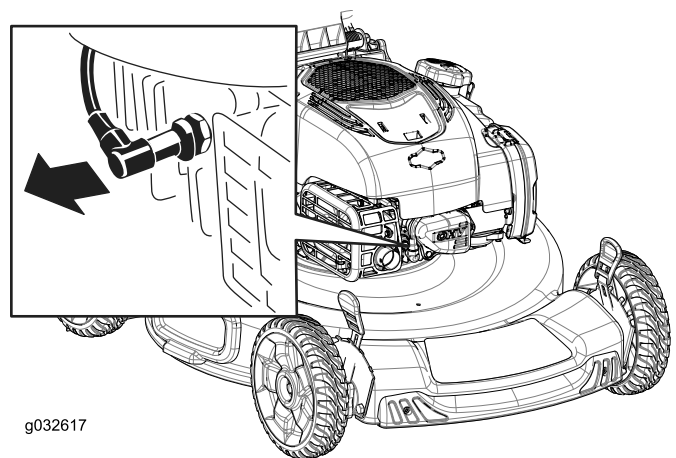

Figure 27
2. Disconnect the spark-plug wire from the spark plug (Figure 27).